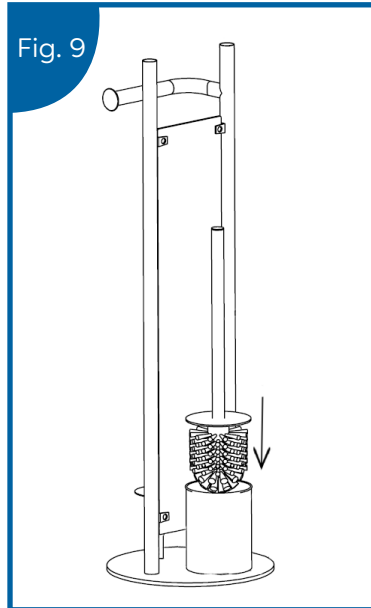

Fig. 9
9. Slot the toilet brush into the toilet brush holder. (See fig.9)